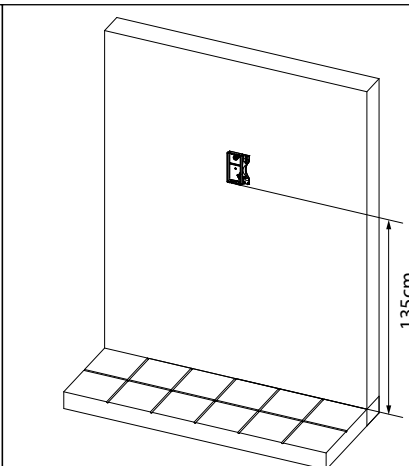
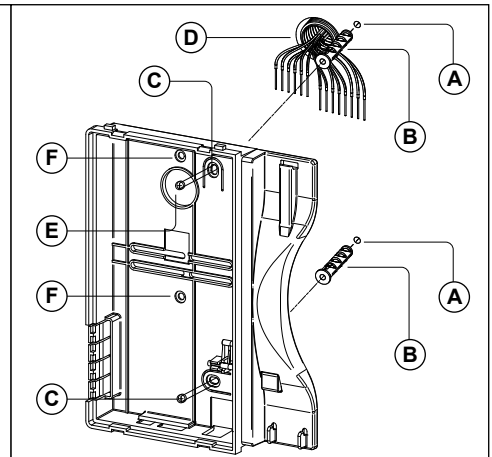

Fig. 2 -
Fig. 3 -
2. Put the base of the unit on the wall at approx 135cm from the finished floor to mark the points for the fixing holes "A" (**Fig. 2**) remembering that the wires "D" (**Fig. 3**) must be fed through the hole "E" (**Fig. 3**). If you use the flush mounting box 503, embed it into the wall vertically at approx. 140cm from the finished floor and the base.
3. Following **Fig. 3**, make the holes "A", insert the wall plugs "B" and fix the base with the screws "C" feeding the wires "D" into the hole "E". If you have used the box 503, fix the base to the wall through the holes "F" using the screws "C".